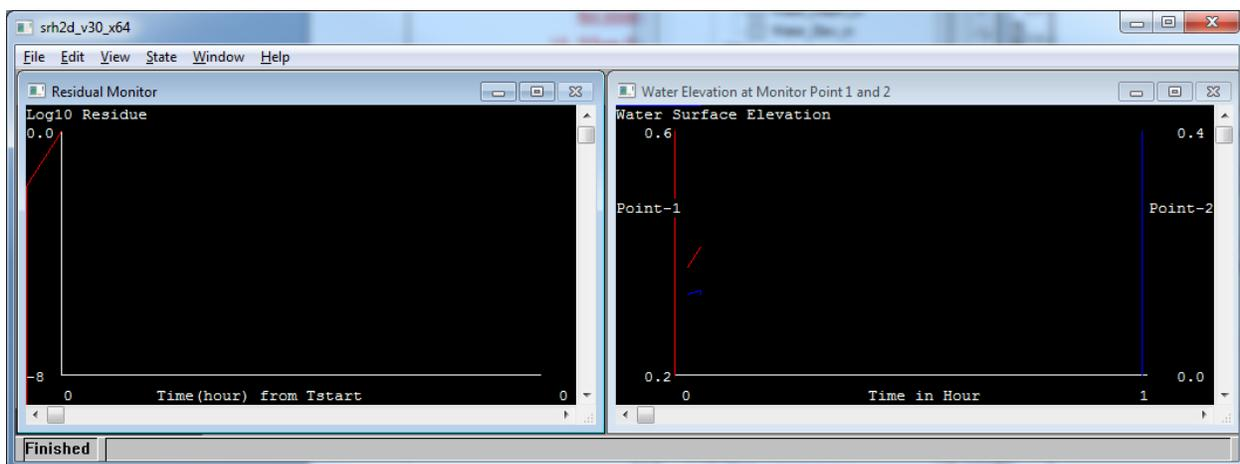

Figure 5 SRH-2D model wrapper
2. Arrange and resize the three DOS windows so that the residual and water surface elevation plots can be seen. The arrangement may appear similar to Figure 5.